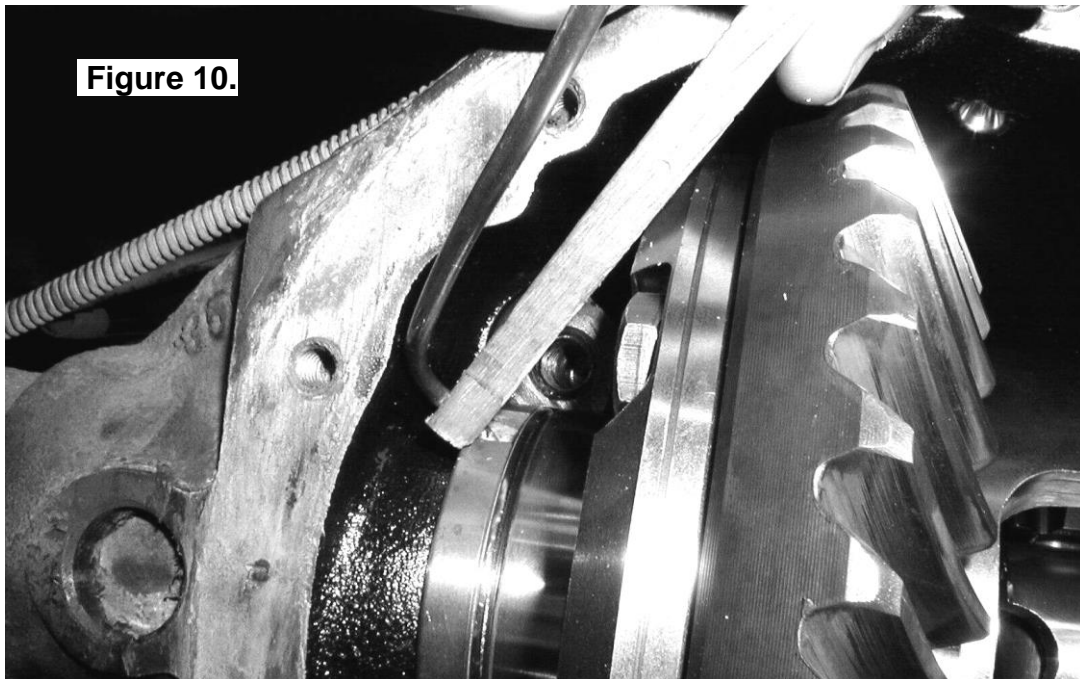

Figure 10.
- Using a soft instrument such as a wooden drift, bend the seal housing tube outward and away from the position of the bearing cap. (Fig.10.)